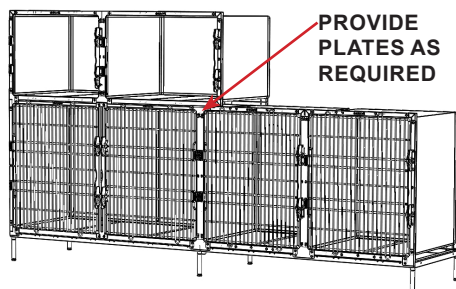

FIGURE 2.43 - Trim Plate #22
Not all cage joints align with cages above/below. For these procedures the bottom row cages do not align with the cages above, add trim plates as required. See FIGURE 2.43
STEP 20: Remove the top trim plate screws (4 each) from both bottom cages that do not align with the cages above. See FIGURE 2.43